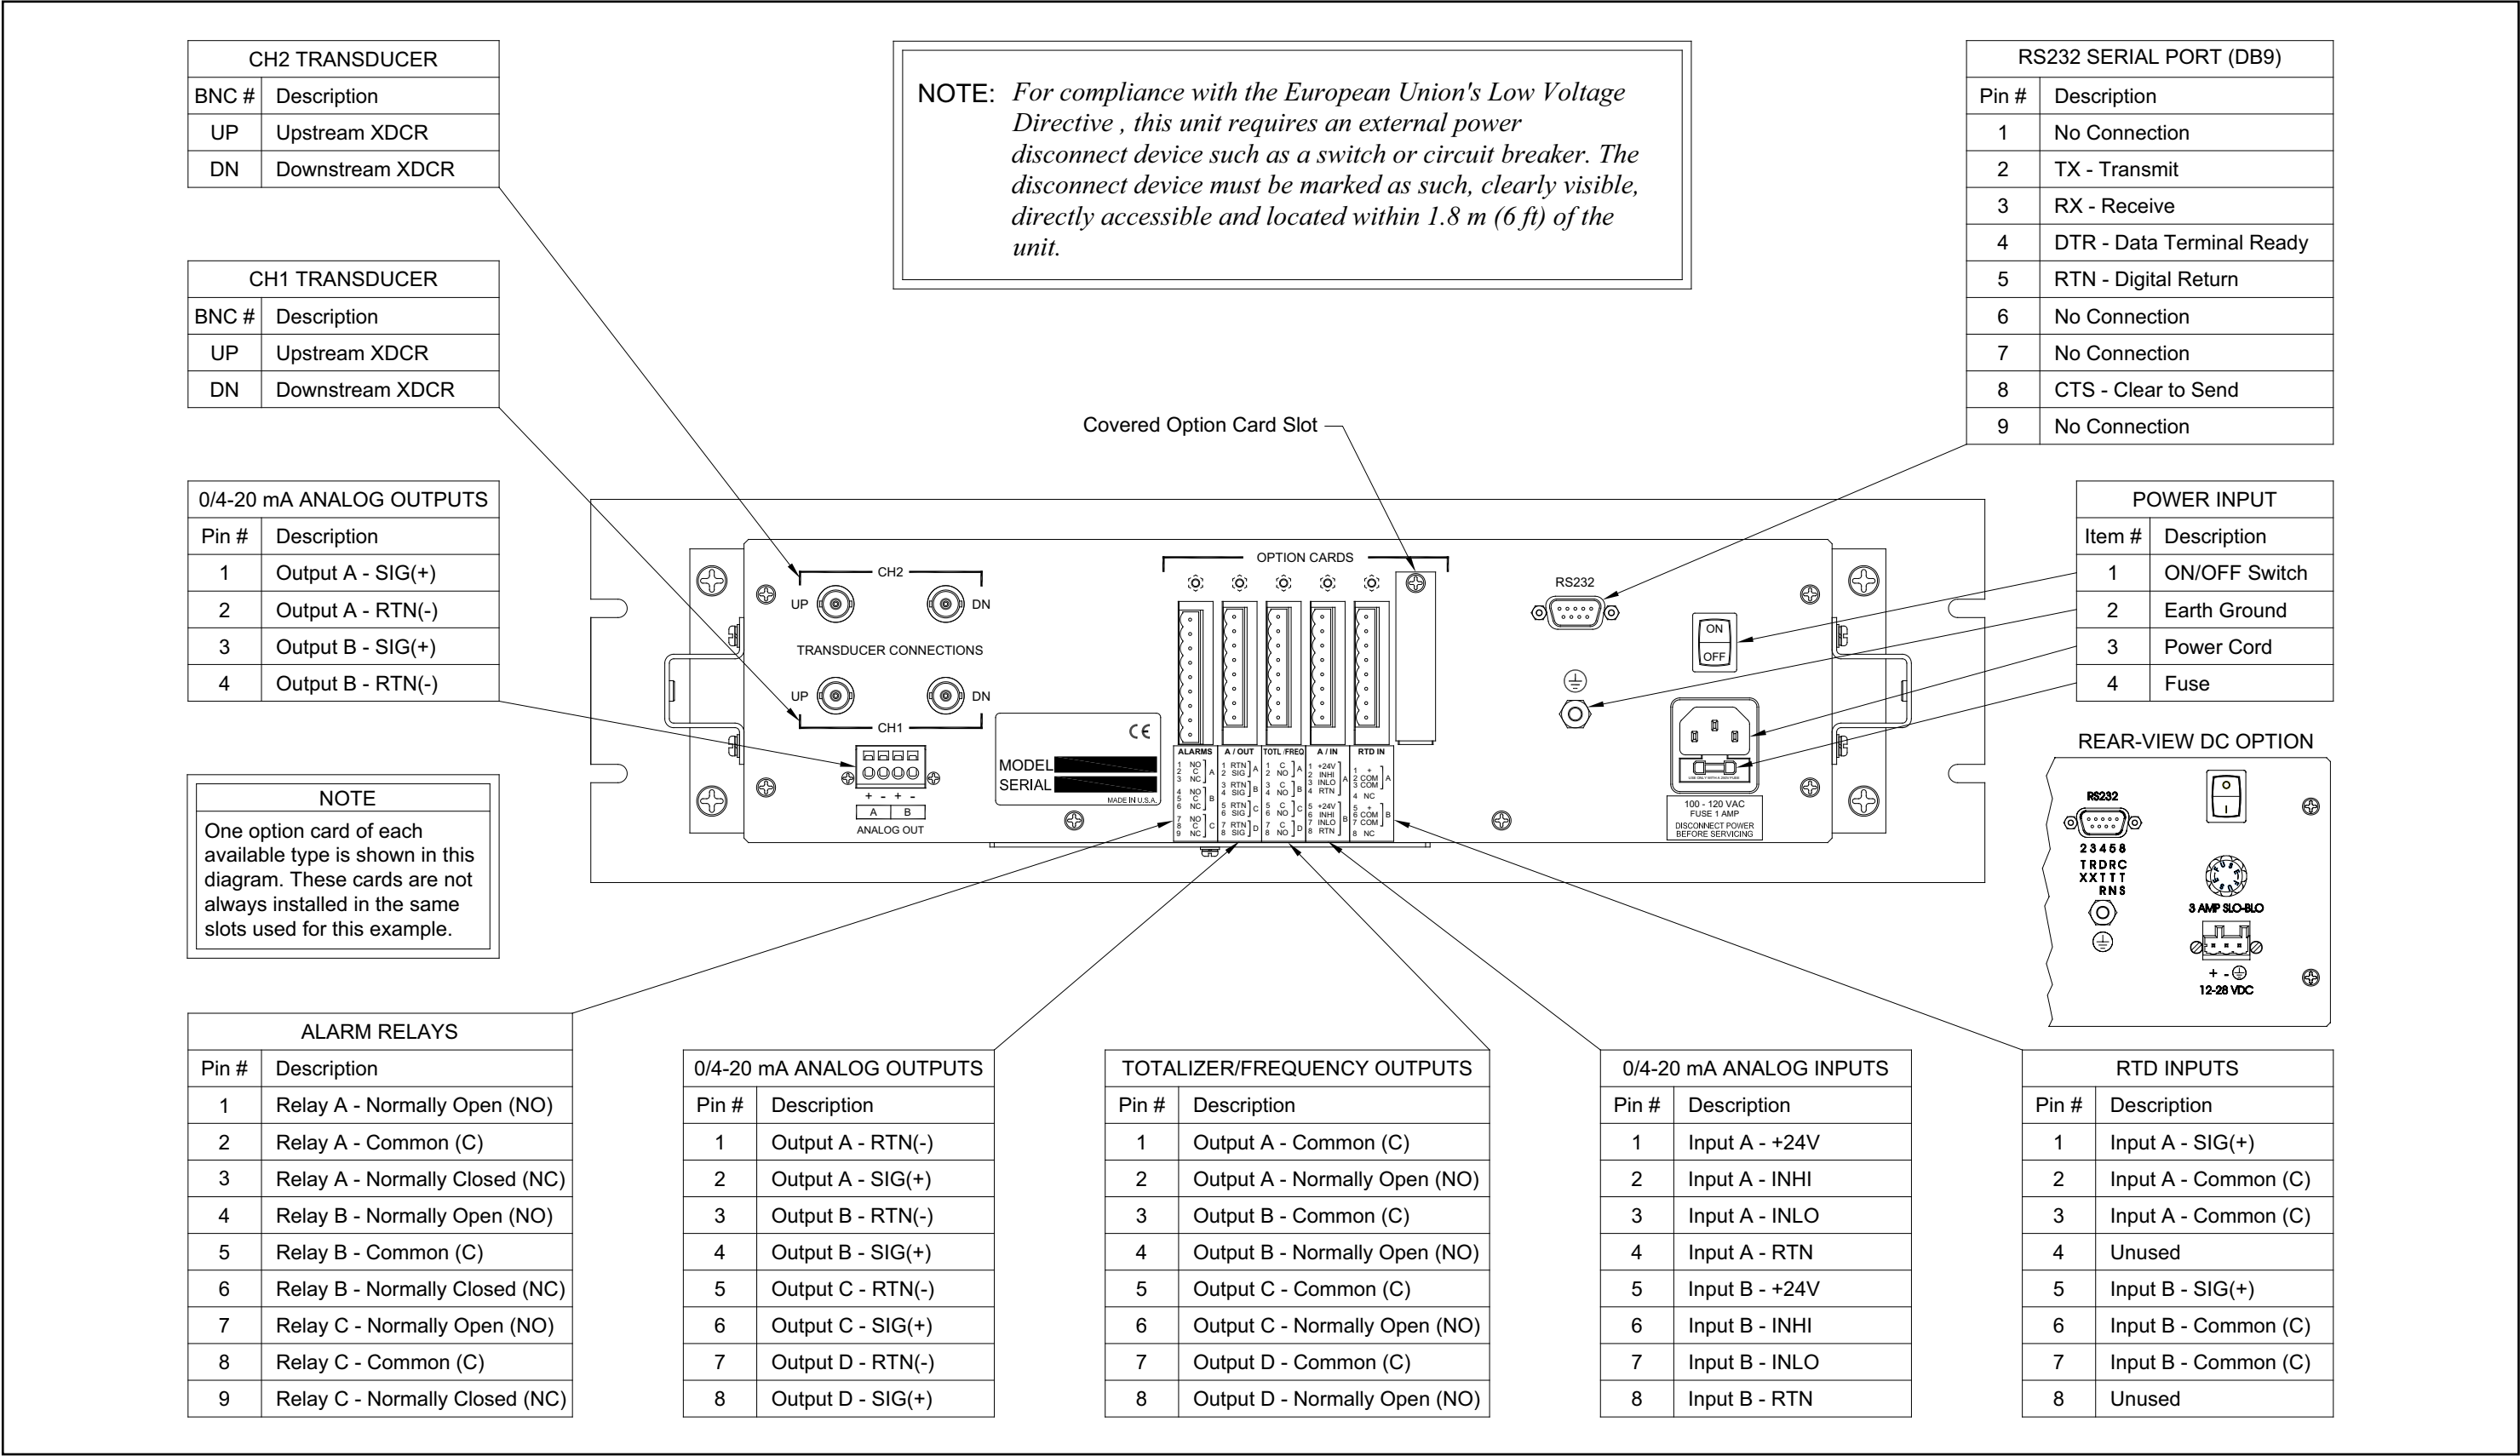

Figure 16: Model GM868 Rack Mount Enclosure – Wiring Diagram
The rack mount Model GM868 requires exactly the same electrical connections as the standard version. However, the locations and type of connectors used for the various components are different. Refer to *Figure 16 on page 54* and complete the following steps:
- a. Purchase or prepare a suitable serial cable. This cable should have a standard female DB9 connector, wired as shown in *Figure 16 on page 54*, for connection to the rear panel of the Model GM868. The other end should be as required for the external device.
5. Wire any installed *option cards* using the same procedures described in Chapter 1, *Installation*, of this manual and the pin # assignments shown in *Figure 16 on page 54*.